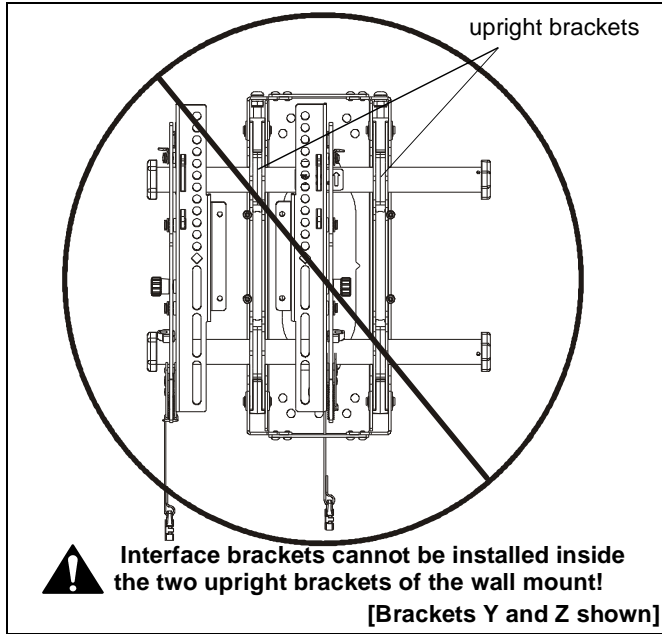

Figure 8
**NOTE:** Interface brackets (Y and Z) cannot be installed inside the two upright brackets of wall mount! Both interface bracket must be installed to the outside of the upright brackets. (See Figure 8)